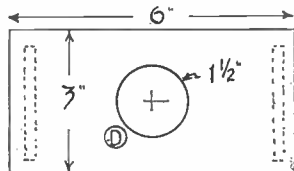

Fig. 3
The top and bottom of the box are now cut to dimensions given in Fig. 3. The bottom is complete, but work on the top, which will act as a removable lid for access to the contents of the box, should be continued as follows. Find the centre by diagonal lines, then from this centre draw the circle shown. Cut this out with the fretsaw very accurately. Glasspaper the edge of the disc sawn out (D) and try it in the hole. It should be easy to twist round with fingers. Saw out a coin slot in the centre $1\frac{1}{2}$ ins. by $\frac{1}{2}$ in.